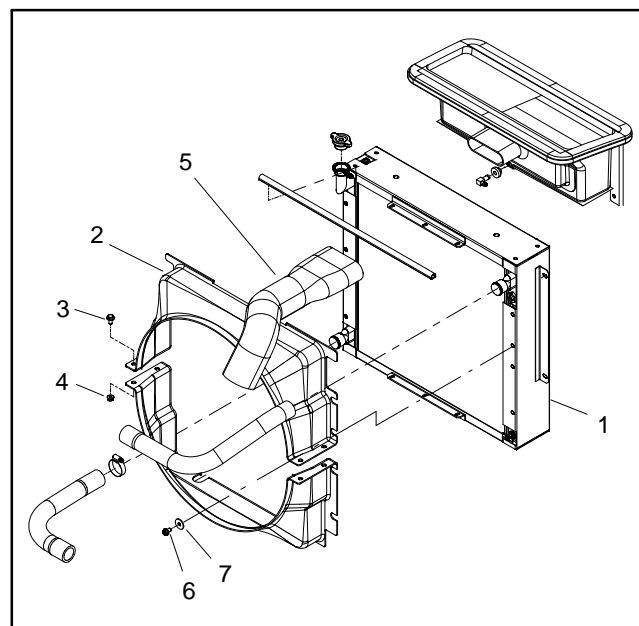

Figure 83
4. Remove air cleaner hose and upper radiator shroud to allow access to hydraulic fan motor (Fig. 83).
5. Remove four (4) cap screws and washers used to secure fan (item 13) to fan hub. Remove fan.
5. Carefully position fan motor and bracket assembly to radiator and secure with six (6) cap screws and flange nuts.
7. Position fan to fan hub and secure with four (4) cap screws and washers.
8. Install upper radiator shroud and air cleaner hose (Fig. 83). Make sure that clearance between shroud and cooling fan is at least 0.180" (4.6 mm) at all points.